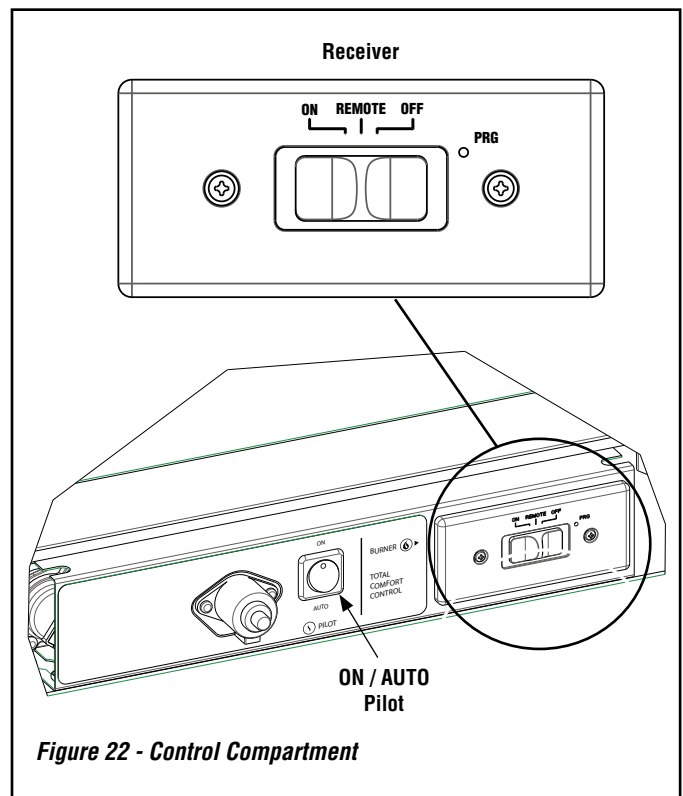

Figure 22 - Control Compartment
Place the 3 position slider switch in the "Remote" position (see *Figure 22*). Using the end of a paper clip, or other similar object, insert the end of the paper clip into the hole marked "PRG" on the Receiver front cover. The Receiver will "beep" three (3) times to indicate that it is ready to synchronize with the Remote (transmitter).
**NOTE:** The blower can be controlled only by the remote. Turning the appliance off with the unit mounted three position slider switch (**Figure 22**) will NOT turn off the blower. To turn off the blower, use the remote in lieu of or prior to shutting the appliance off at the three position slider switch (**Figure 22**).